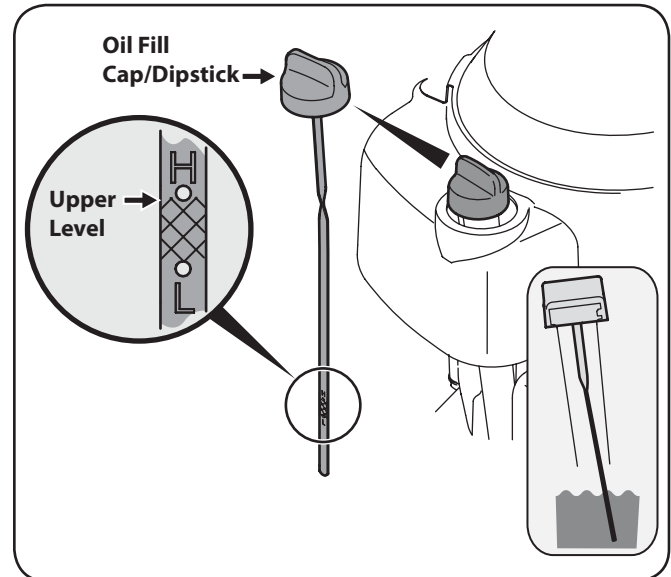

Figure 3-2
2. Insert the dipstick into the oil filler neck. Turn the dipstick a 1/4 turn into the locked position to fully seat. See Fig. 3-2.
4. If the level is low, slowly add oil to the upper limit on the dipstick. See Fig. 3-2 inset.